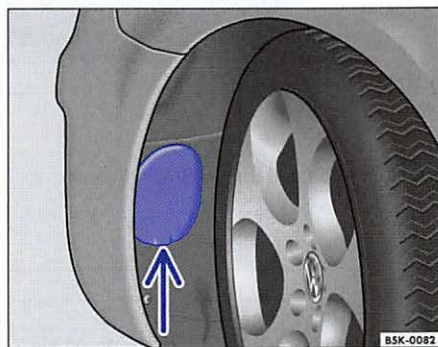

Fig. 170 Remove cover in wheel house liner.
2. With the flat blade of the screwdriver from the vehicle tool kit ⇒ page 305, remove the cover in the wheel house lining from below ⇒ fig. 170 (arrow).
8. Replace the cover ⇒ fig. 170 in the wheel house liner.